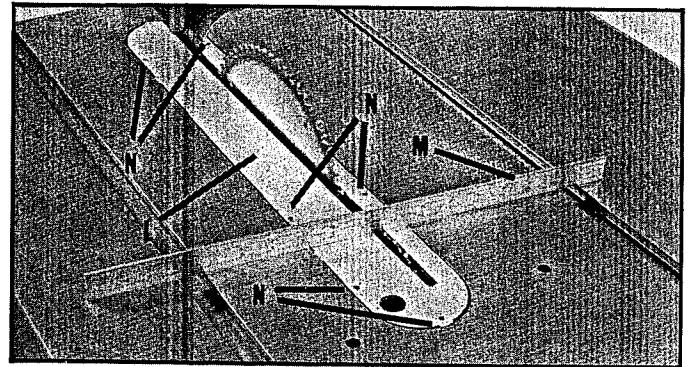

Fig. 16
4. Place the table insert (L) in position on the saw table, as shown in Fig. 16. Place a straight edge (M) across the saw table and insert to determine if the insert is flush with the saw table. If an adjustment is necessary, tighten or loosen the six screws (N) until the insert is flush with the table.